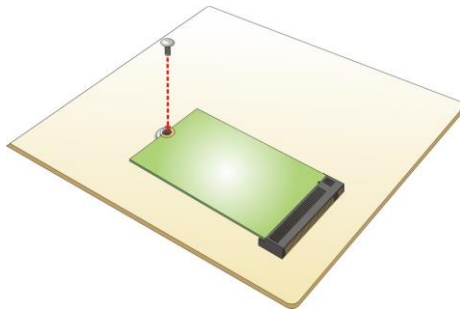

Figure 3-6: Securing the M.2 Module
Step 4: Secure the M.2 module with the previously removed retention screw (Figure 3-6).